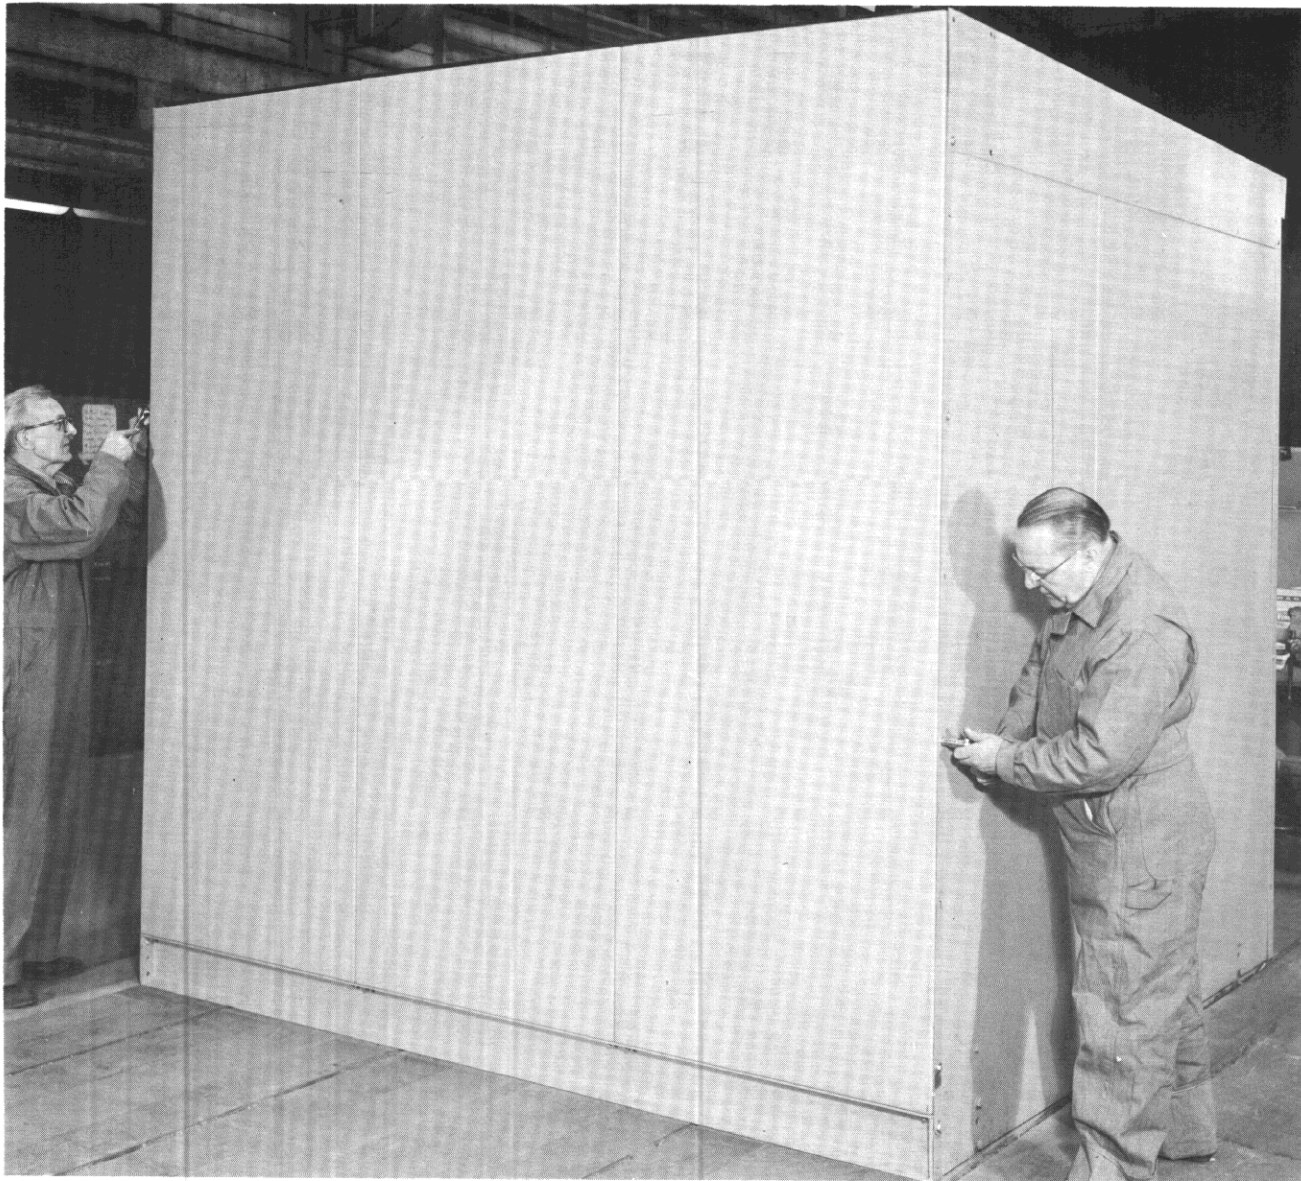

Fig. 3. Remove Shipping Bolts Holding Aisle Front Panels in Place
5. In the case of single row Shelterfor-M, the enclosure front panel assembly is unbolted from the metal-clad compartments as shown in Fig. 3. These panels are factory bolted to their foundation channel, and should not be removed from it.